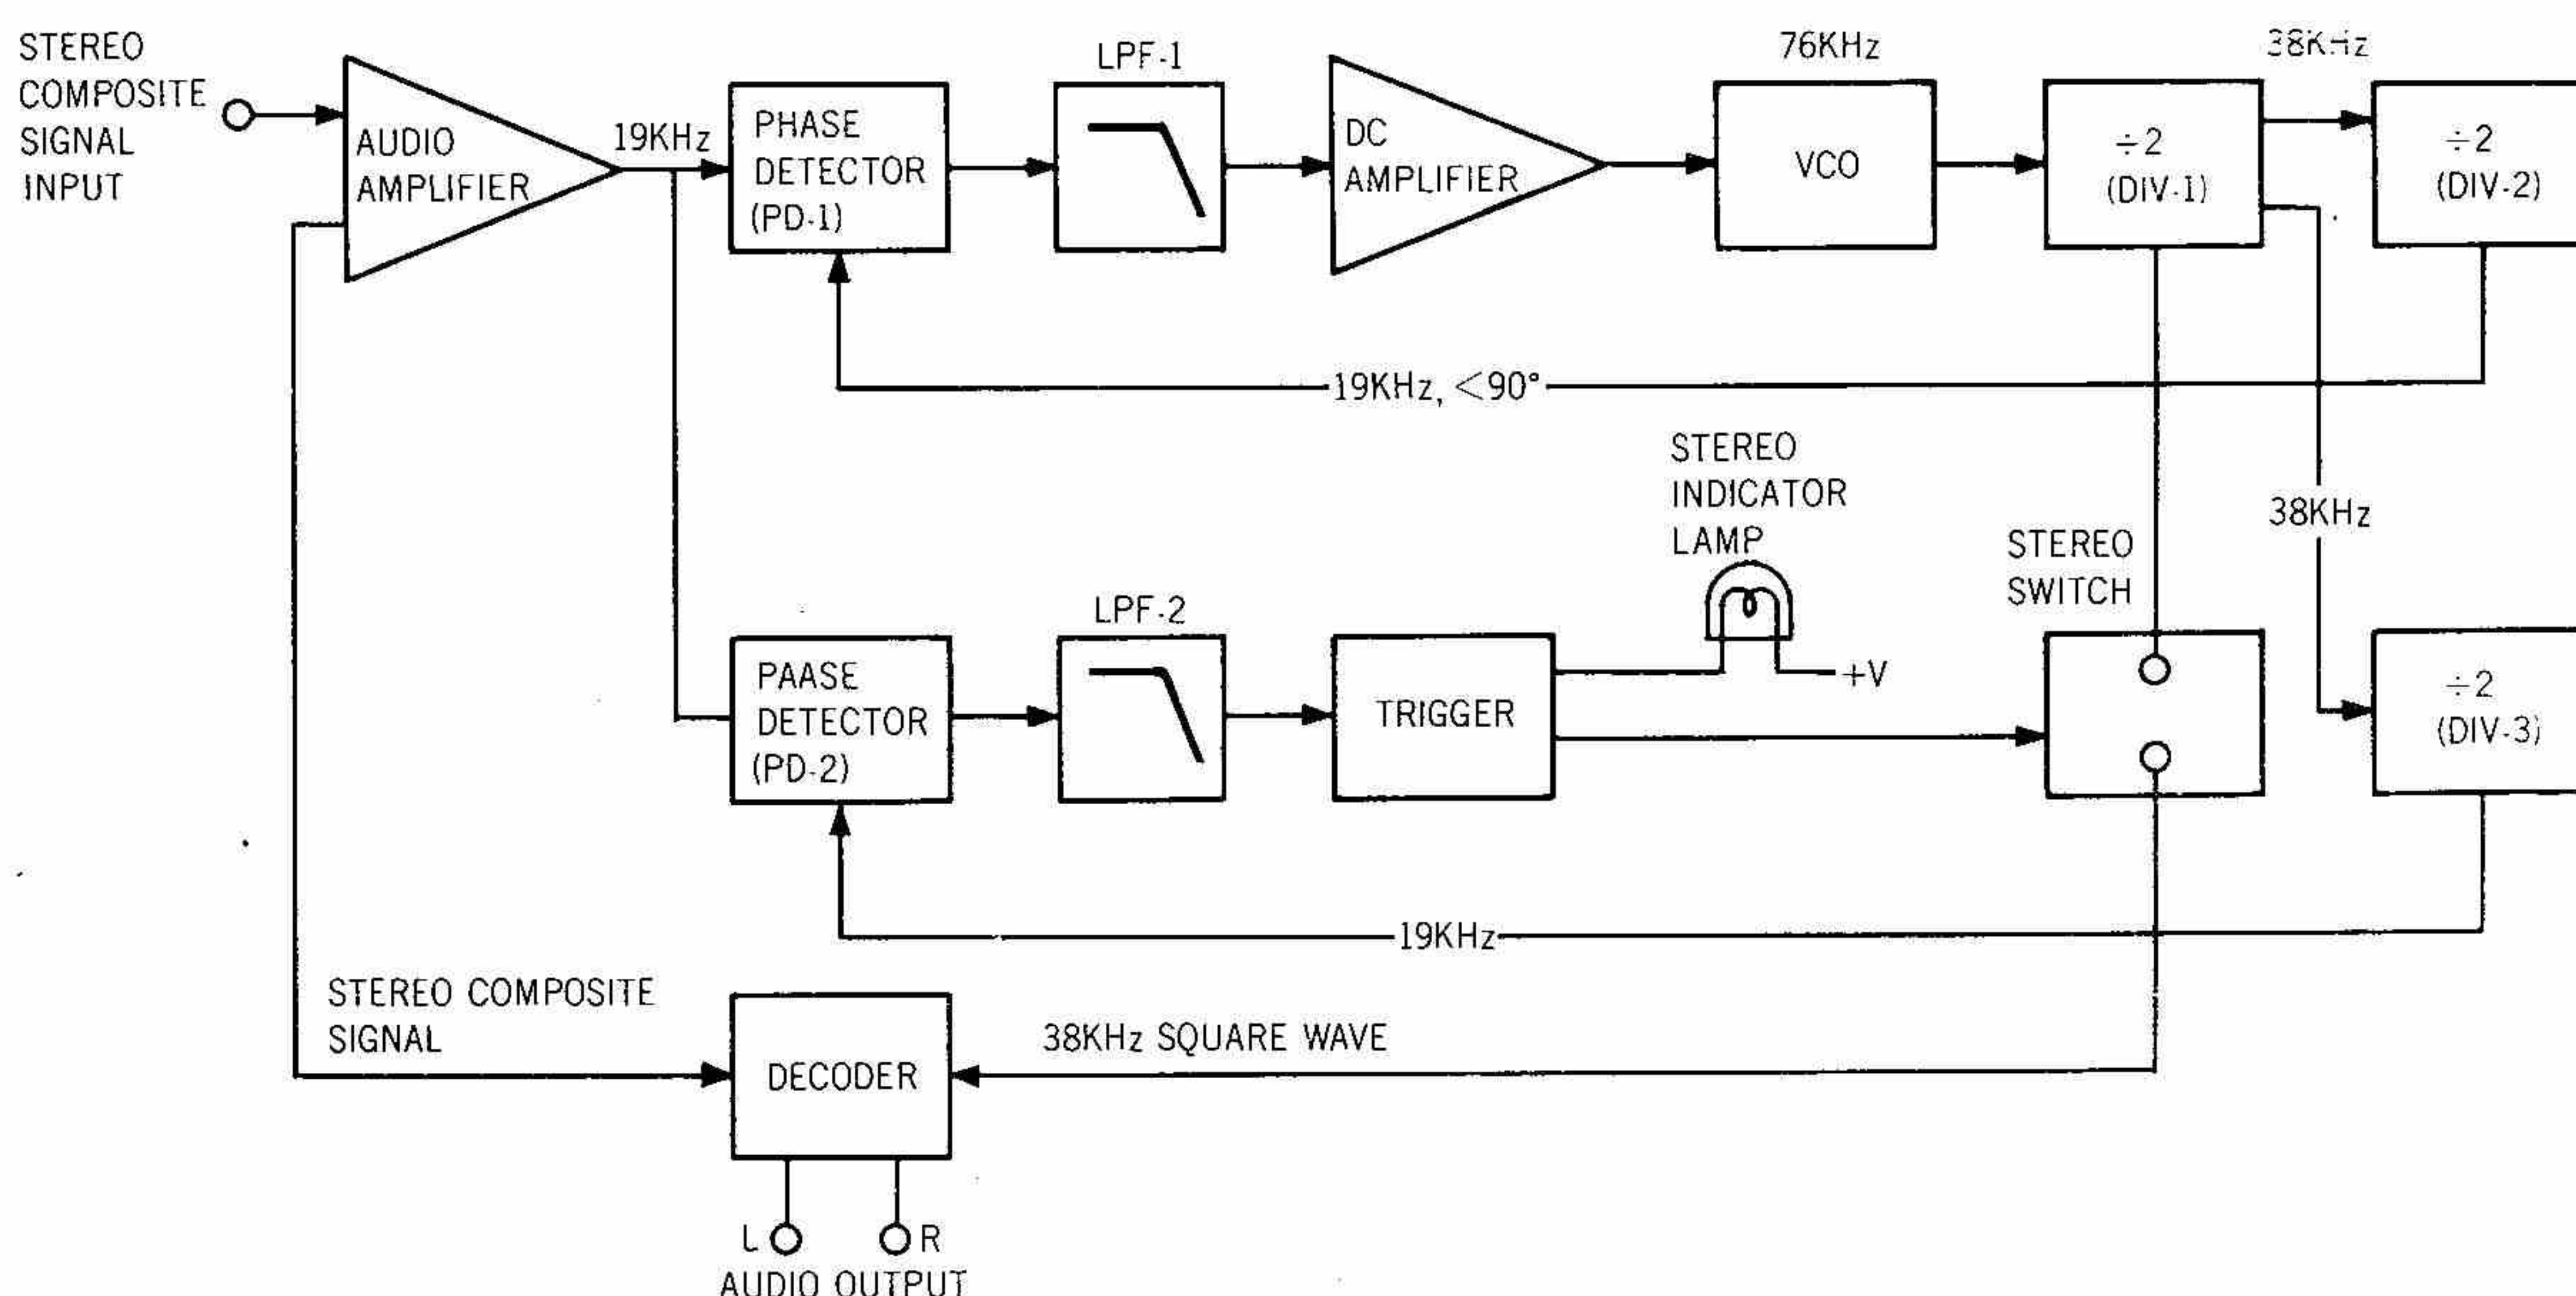

Figure 1. Block Diagram of the HA1156
Figure 1 presents an internal block diagram showing the functions of the PLL basis MPX stereo decoding IC HA1156. The input stereo composite signal, amplified by the audio amplifier, is delivered to the phase detectors PD-1 and PD-2. A part of the stereo composite signal is also applied to the stereo decoder section. The VCO (Voltage Control Oscillator) produces a free run oscillation in the neighborhood of 76 KHz with the time constant determined by a capacitor C305 and resistors R311 and R312 set on the outside of pin ⑭. The VCO output has its frequency divided into 19 KHz through the two stages of the frequency divider (DIV-1 & DIV-2), and is reverted to the phase detector PD-1, which contains two input terminals designed to produce an output in proportion to the product of the two input signals.